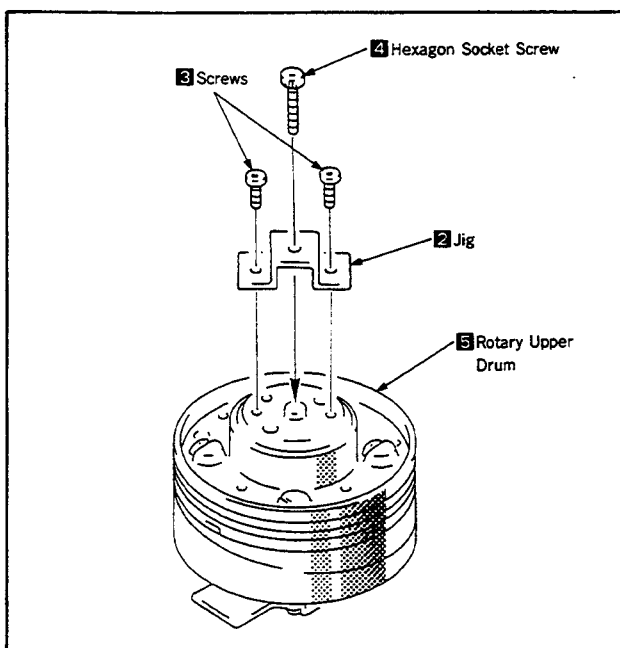

Fig. 30
- 2) Mount the jig **2** (Ref. No. J-10) with the two supplied screws **3**, then screw the attached hexagon socket screws **4** to the jig **2**. The rotary upper drum **5** will move upward and come off (Fig. 30).